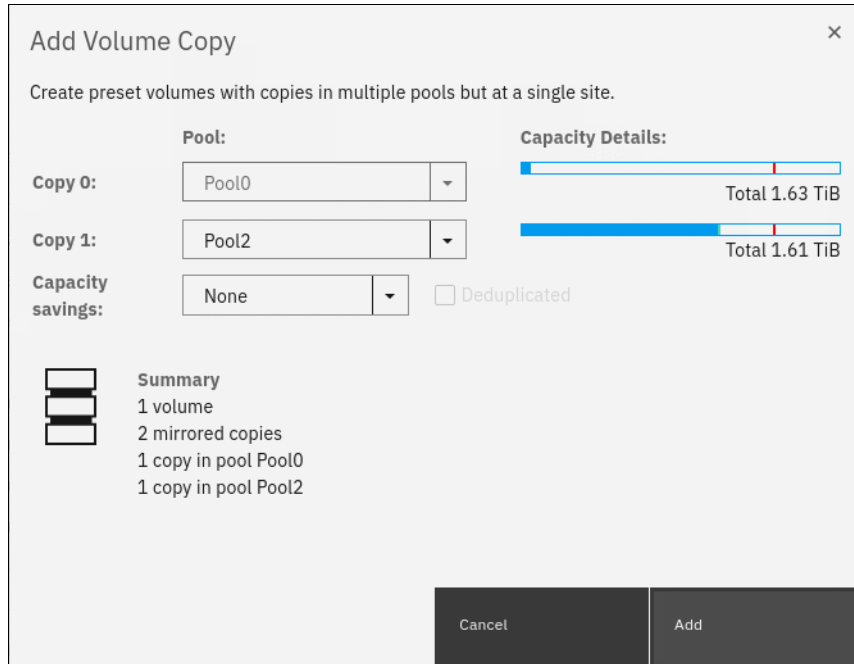

Figure 6-80 Adding a volume copy
2. Create a second copy of your volume in the target storage pool, as shown in Figure 6-80. You can modify the capacity savings options for the new volume copy. In our example, a compressed copy of the volume is created in target pool Pool2. The Deduplication option is not available if either of the volume copies is not in a DRP. Click **Add** to proceed.